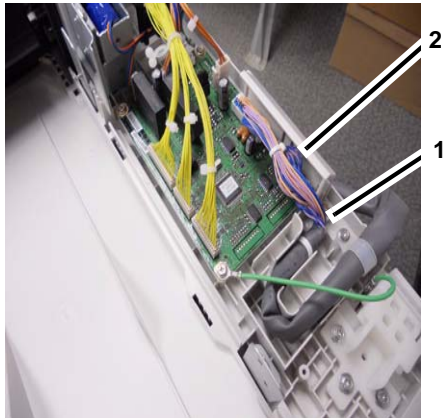

Figure 1 Removing Connector Cover
3. Remove the connector cover. (Figure 1)